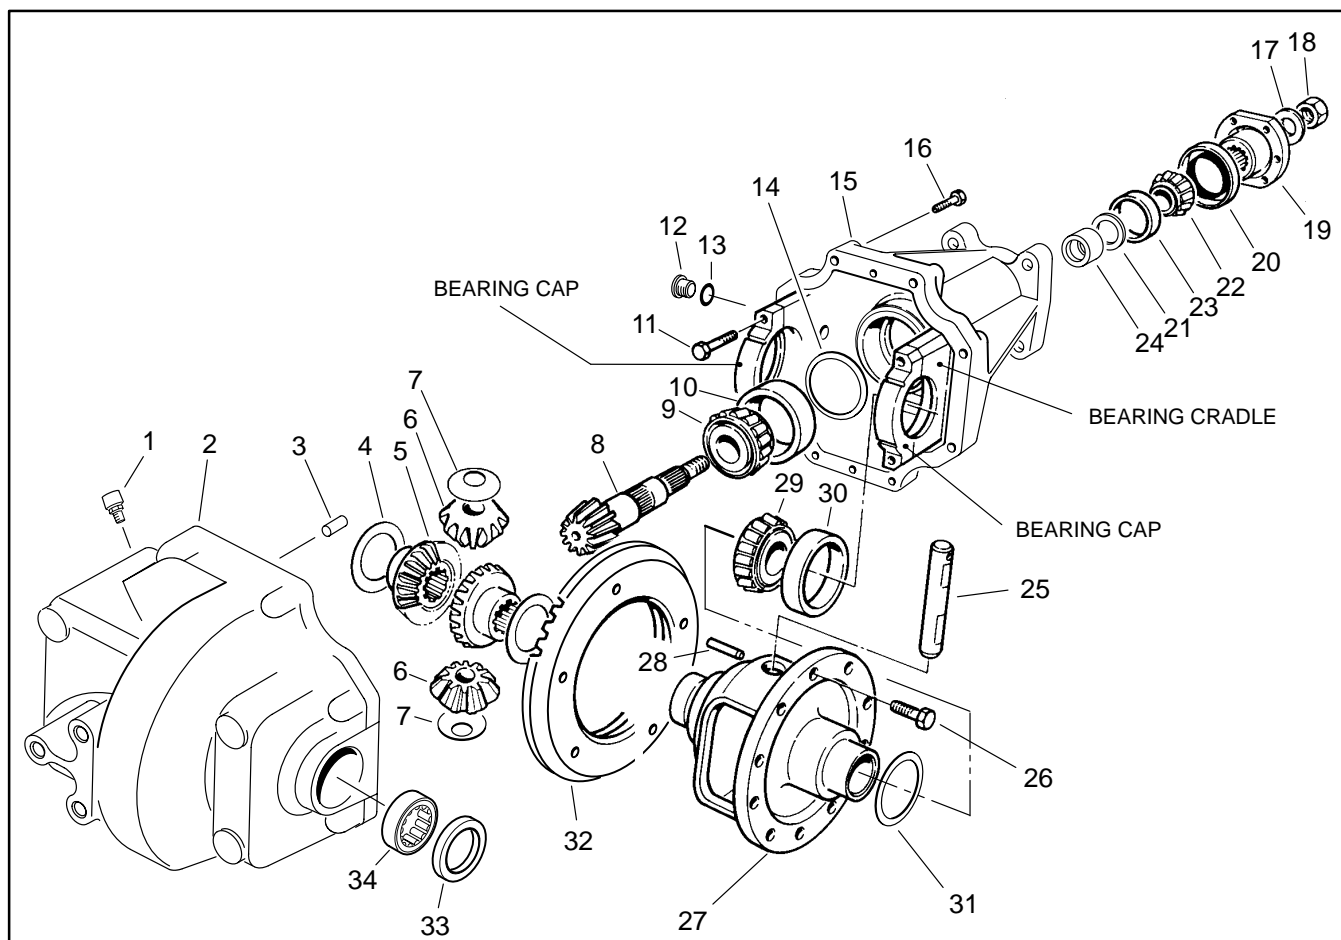

Figure 21
**Disassembly (Fig. 21)**
#### Inspection (Fig. 21)
Assembly (Fig. 21)
**Note:** Part numbers in parentheses ( ) correspond to the part numbers in Figure 21.